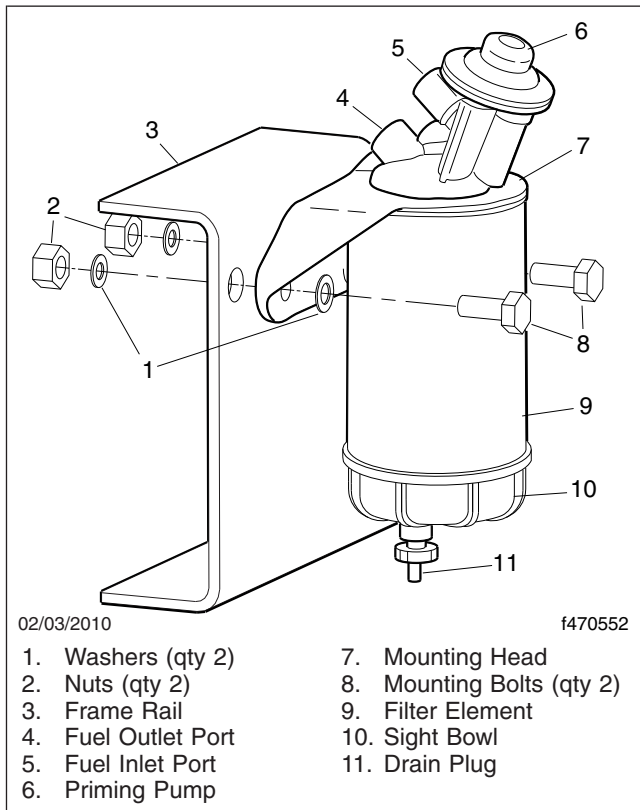

Fig. 21.13, Alliance Fuel/Water Separator Assembly and Installation
4.2 *Alliance/Racor Models:* Turn the drain plug counterclockwise to open it. See **Fig. 21.13**.